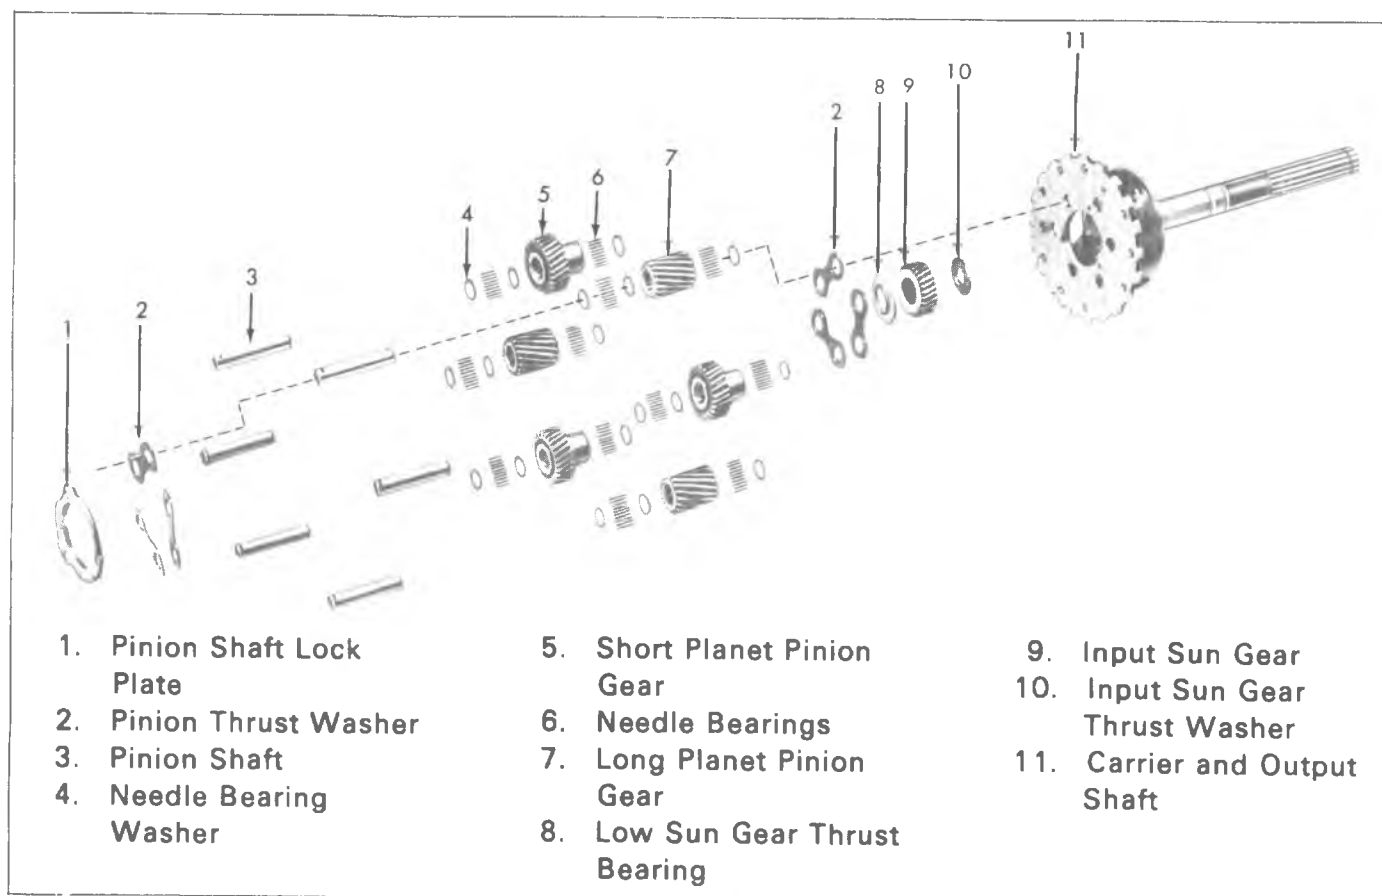

Fig. 24PG--Small Planet Carrier Assembly--Exploded View
15. Using J-4599, assemble needle bearing spacer and needle bearings (20 in each path) in one of the long planet pinions (fig. 24PG). Use petroleum jelly to aid in assembling and holding the needle bearings in position.